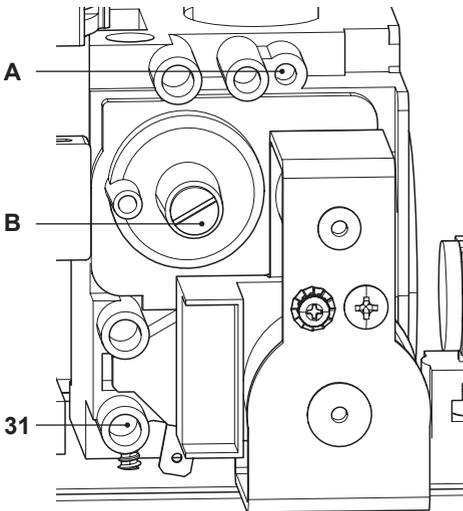

Fig. 7.6
- When the boiler is switched off (out of order), check the supply pressure by using the 31 point in Fig. 7.6 and compare the value read with that reported on the Gas supply pressure table in the "Technical Data" section (pag. 26 Advance Plus 25C, pag. 29 Advance Plus 30C and pag. 32 Advance Plus 35C).
- Close well the pressure point 31 in Fig. 7.6.